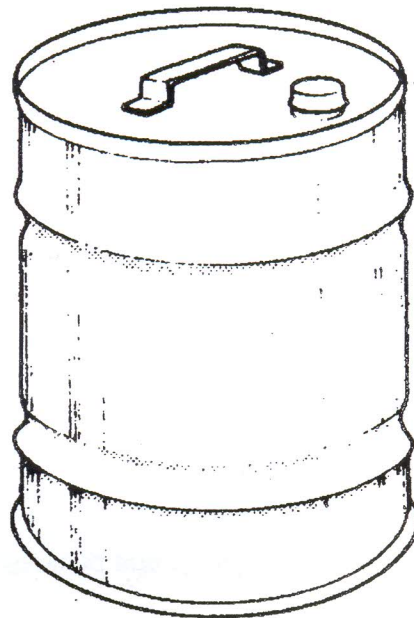

Figure 5: Drum
- (c) According to Figure 5(drum), identify and explain briefly the type of stiffener that is applied on the body of the drum.